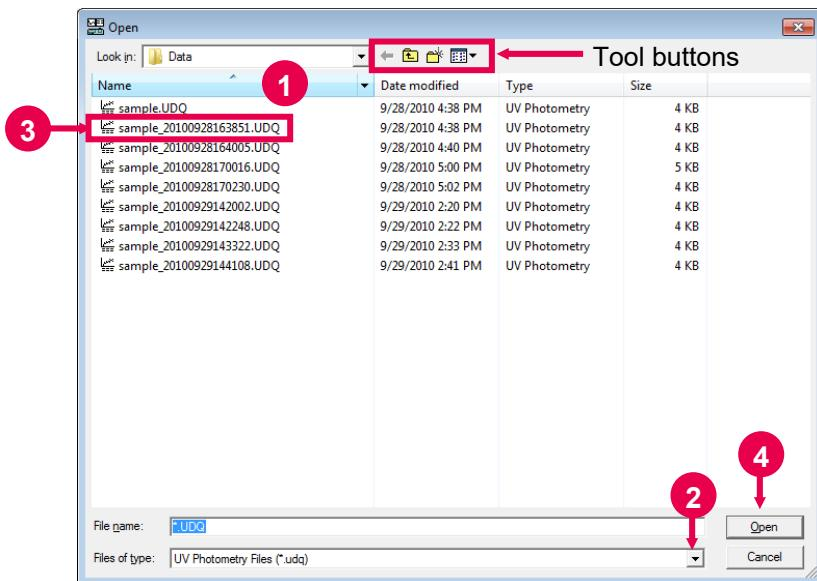

Fig. 5-1
- (1) Click the  button on the Standard toolbar (or select the Open command from the File menu). A dialog box as shown in Fig. 5-1 will appear.
- (2) The dialog box shown in Fig. 5-1 contains four tool buttons. Table 5-1 lists the tool buttons and their functions.
- (3) In the "Look in" field, specify a folder containing the file to be loaded.
For example, specify UV Solutions ⇒ [Data] in Local Disk (C:) (refer to (1) in Fig. 5-1).
Upon clicking  , the files of the selected type will be listed (refer to (2) in Fig. 5-1).
- (5) Select a file. The selected file is highlighted in blue (refer to (3) in Fig. 5-1).
- (6) After completion of file selection, click the **Open** button (refer to (4) in Fig. 5-1). The selected file will open as shown in Fig. 5-2.